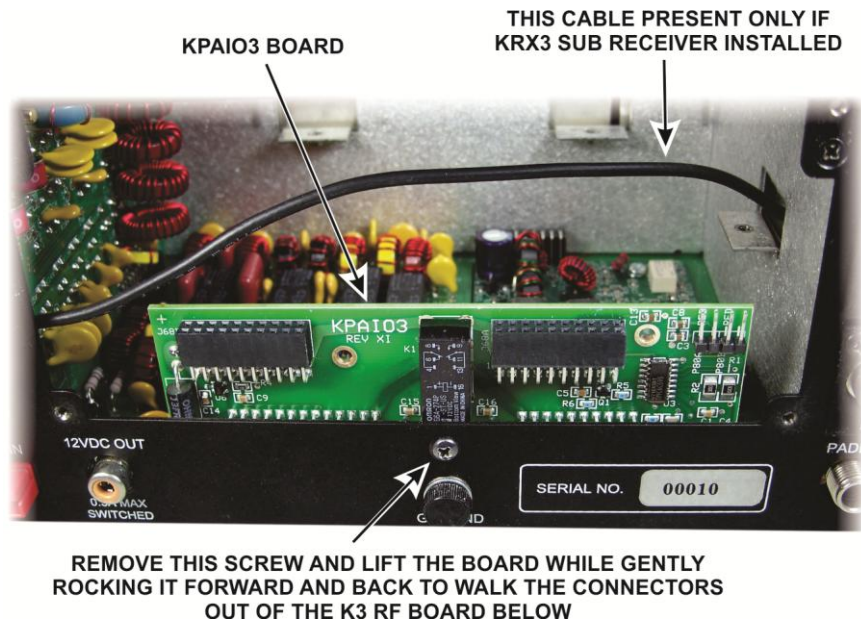

Figure 5. Removing the KPAIO3 Board.
- Remove the KPAIO3 interface board as shown in Figure 5.
- Replace the KPAIO3 interface board (Figure 5, pg 4). The connectors are normally a tight fit. Gently rock the board back and forth while pressing down until the connectors are mated and the standoff on the KPAIO3 board is lined up with the screw hole in the rear panel. Secure it with the 4-40, 1/4" (6.4mm) black pan head screw you removed earlier.